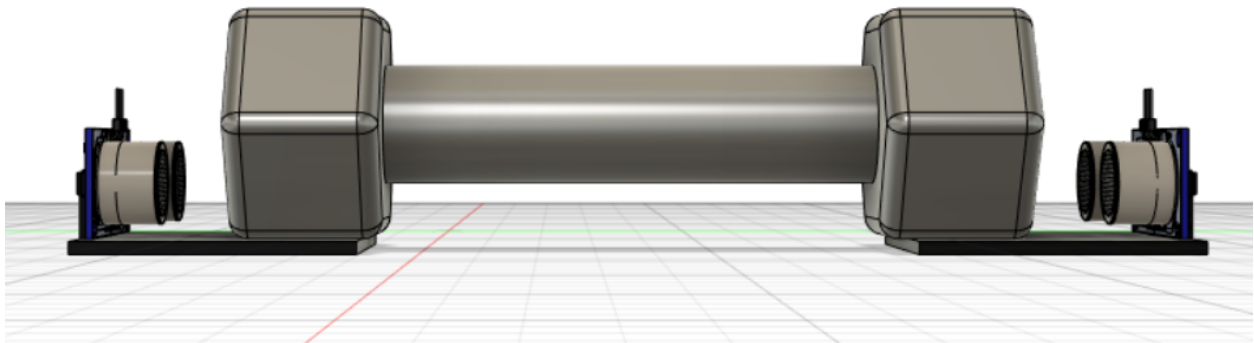

Figure C.4: Use dumbbell to determine distance apart of stands
4. Use the dumbbell to set the two stands and sensors at the necessary distance for the head of the dumbbell to be the only thing on the stand as shown in Figure C.4